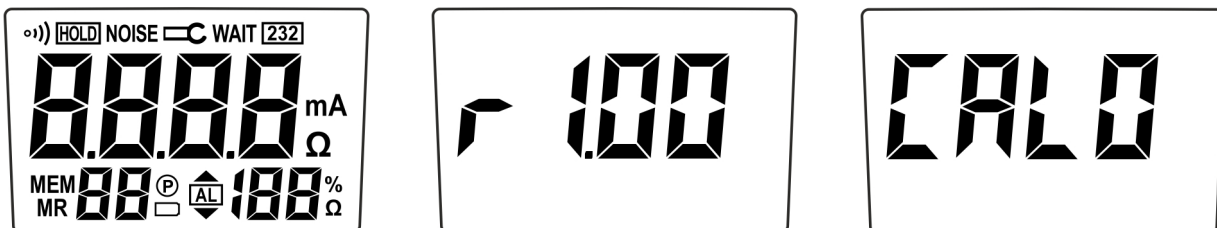

Fig. 3: Sequence of screens upon switching on the instrument
- The screen with all existing symbols (see Fig. 3 – left side)
- The screen with the loaded firmware version (see Fig. 3 – central part)
- Carries out the calibration process, showing a countdown which starts from “**CAL.9**” and comes down to “**CAL.0**” (see Fig. 3 – right side).